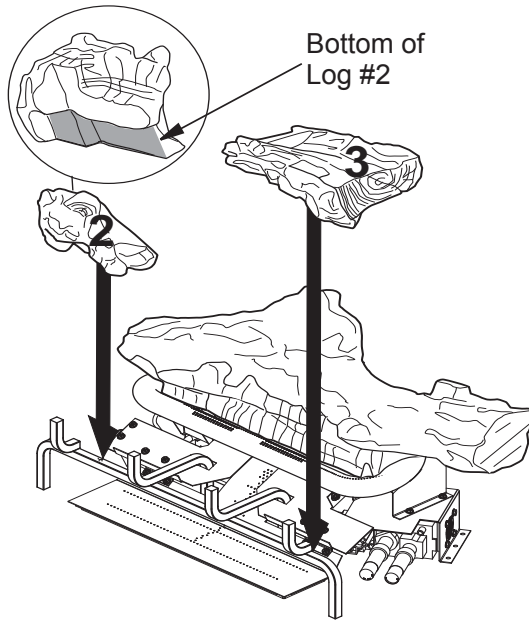

Figure 23 - Installing Logs #2 and #3
2. Place left bottom log (#2) onto base assembly as shown in **Figure 23, Page 17**. See detail in drawing for contour on bottom of log. Log will fit over metal brackets and flat onto base assembly
3. Place right bottom log (#3) onto pan burner as shown in **Figure 23, Page 17**.